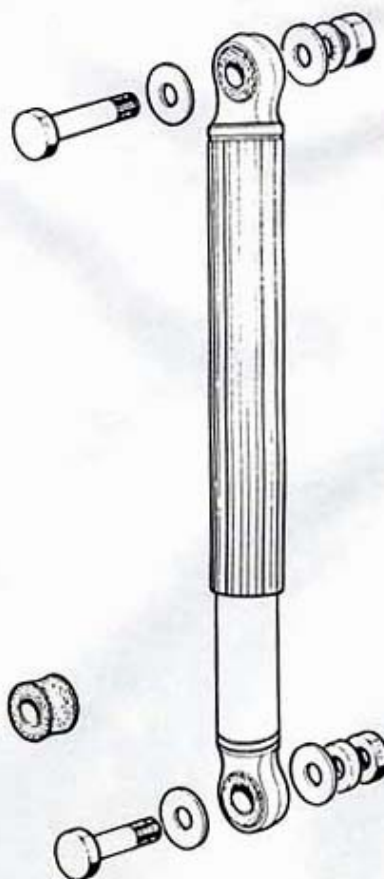

Fig. 2
- Remove the upper bolt assemblies (13mm wrench, fig. 2).
- Remove the shock absorber lower mounting bolts (fig. 2).